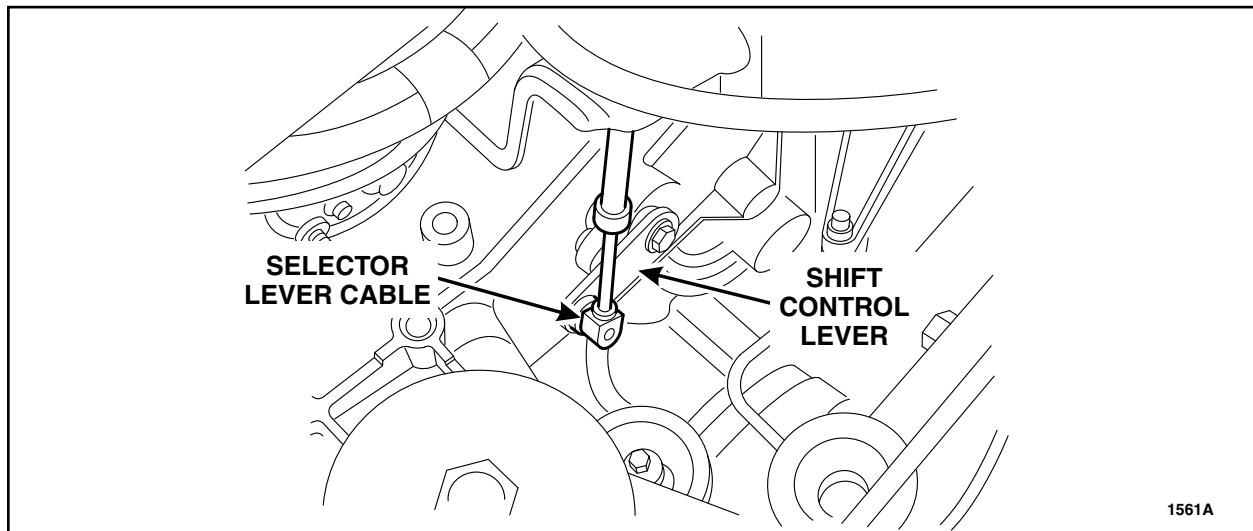

FIGURE 1
2. Disconnect the selector lever cable end from the shift control lever at the transmission. See Figure 1.
6. Reconnect the selector lever cable end to the shift lever. See Figure 1.